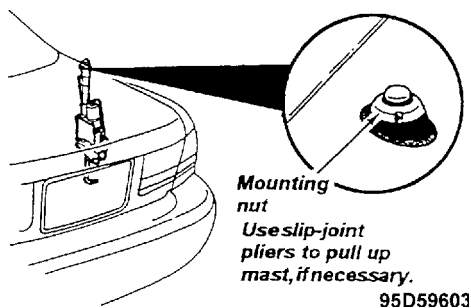

Fig. 1: Antenna Location
See Fig. 1
- 2) Have an assistant turn on the radio while holding the mast, to avoid damaging the paint. If the mast does not pop up, use slip-joint pliers to pull it up. See Fig. 1.